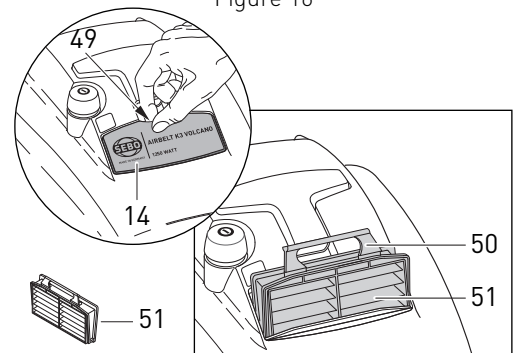

Figure 17
Changing the Exhaust Filter - Figure 17
The exhaust filter (51) needs to be changed when it becomes extremely dirty or clogged with dust, or after approximately 10 to 20 filter bags have been used. To change the exhaust filter, set the canister flat on the floor as shown in figure 17. Remove the printed cover on top of the machine (14) by lifting the catch (49) in the upholstery nozzle recess (see inset, figure 17). Pull out the filter using the handle (50) and fit the new filter into the same position. The filter handle should point toward the upholstery nozzle when it is folded down. Fit the tabs on the bottom of the cover (14) into the grooves and snap the cover down firmly.